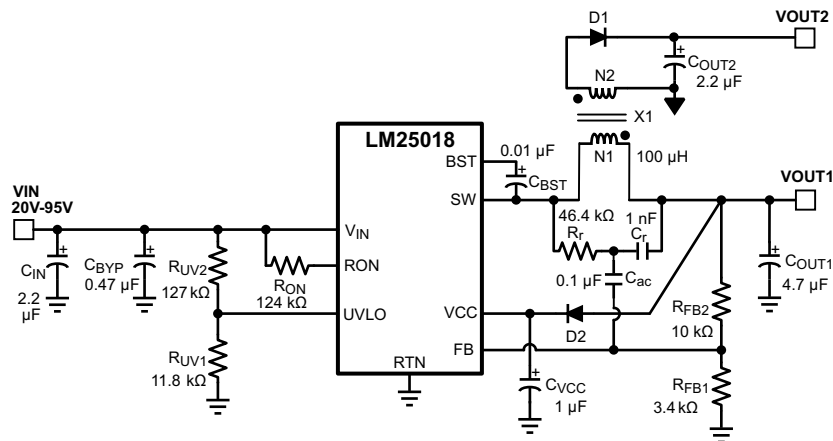

Figure 17. Typical Isolated Application Schematic
An isolated supply using LM25018 is shown in Figure 17. Inductor (L) in a typical buck circuit is replaced with a coupled inductor (X1). A diode (D1) is used to rectify the voltage on a secondary output. The nominal voltage at the secondary output (V_{OUT2}) is given by Equation 20.